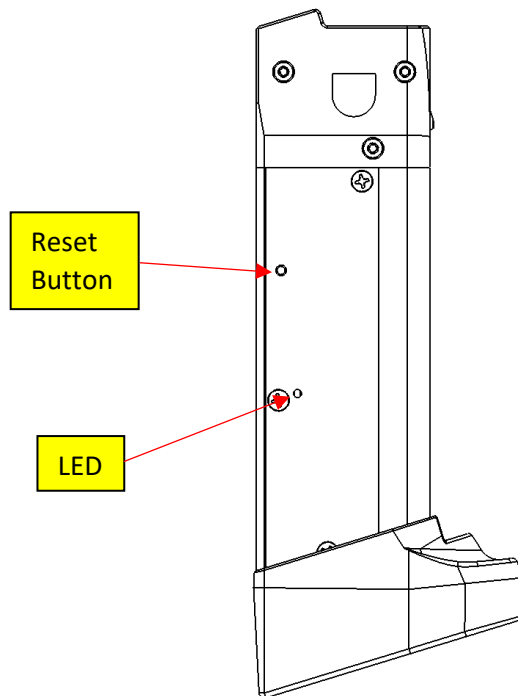

Figure 5
- If the V-USPC9-ASM or V-P2000/9-ASM green LED light is on, and Magazine does not show up in VOS first try resetting the magazine by pressing the reset button with a small tool through the hole in the front cover as shown in Figure 5.
- If the LED is flashing between Red and Green, this means there is an internal issue with the magazine’s electronics. Try resetting the Magazine as described in Section III, C, if issue persists, contact VirTra Service Department. See Figure 5 for location of LED.